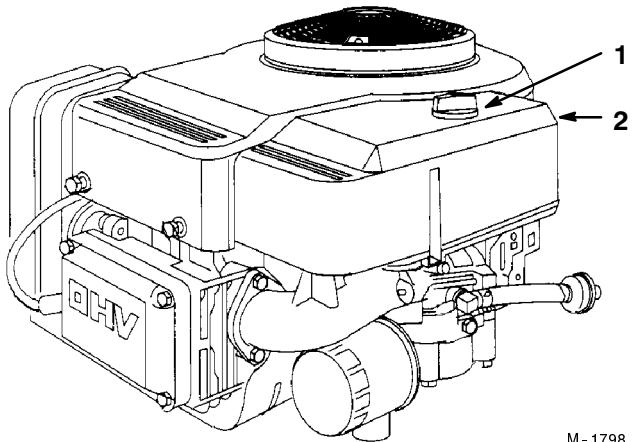

Figure 22
3. Clean around the air cleaner to prevent dirt from getting into the engine and causing damage. Unscrew the knob and remove the air cleaner cover (Fig. 22).
3. Install the air cleaner cover and knob (Fig. 22). Tighten the knob snugly.